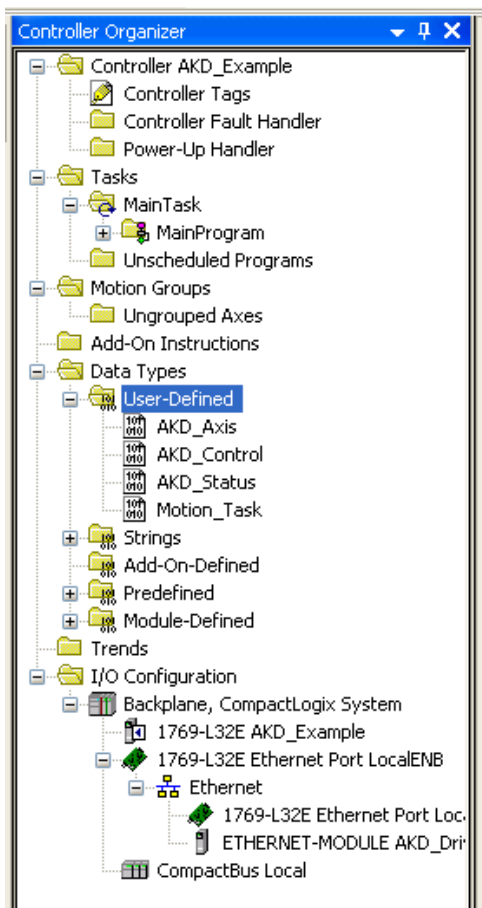

Figure 5-8: Data Types Successfully Imported
4. The data types should now show up under the “Data Types > User-Defined” folder (Figure 5-8: Data Types Successfully Imported)